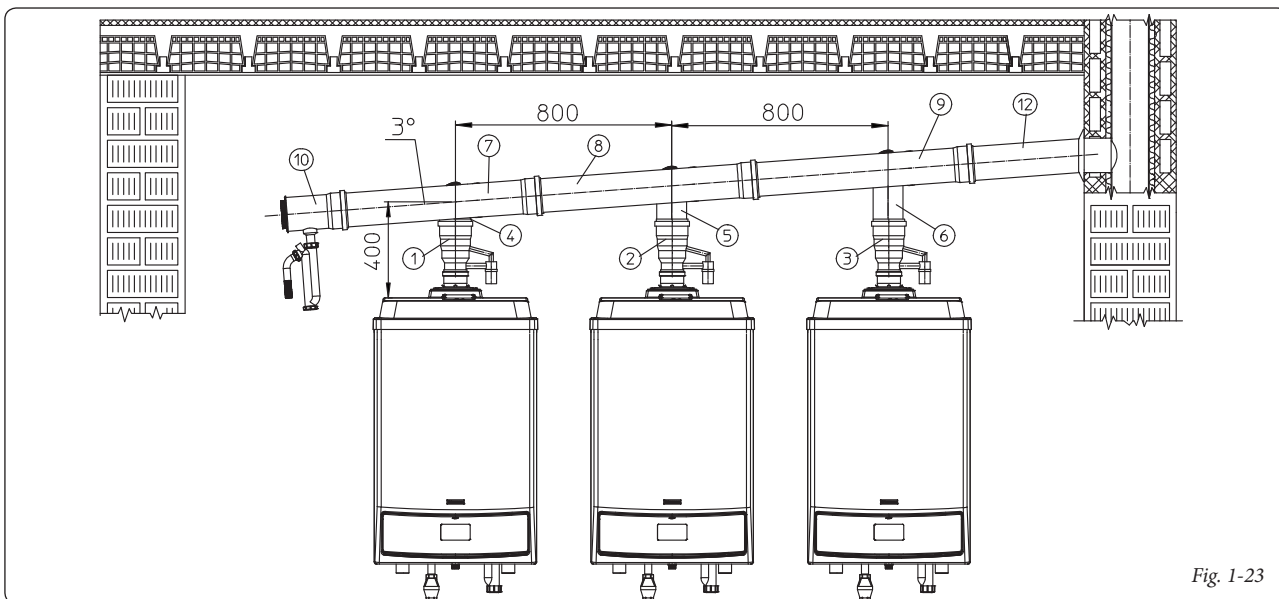

Fig. 1-23
- the distance between the boilers (2 or 3) must be 800 mm (Fig. 1-23);
Kit assembly (Fig. 1-23): install the various stub pipes with flue adjusting device (1-2 and 3) on the central hole of each individual boiler, taking them up to stop. Engage the various bends with inspection (4-5 and 6) on the relative stub pipes with flue adjusting device from the shortest to the longest in a way that the bend nearest to the flue is the highest (see figure above), then fit the pipe (7) onto the bend (4). Cut the pipes to size (8) and (9) in a way to respect the distance of 800 mm between the boilers.